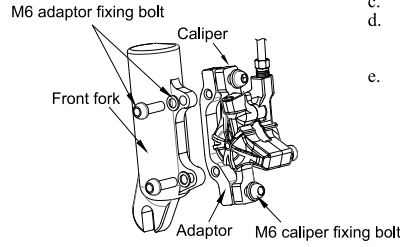

FIG.2
- 3-1 Place a qualified adaptor on the front fork or frame by M6 adaptor fixing bolts + washer at a torque of 8~10 Nm(71~89 in.lbs) to install the Bengal Hydraulic Disc Brake. (As shown in FIG.2).
- 4-1 Install the calipers on the adaptor by M6 caliper fixing bolts loosely and let calipers be able to swivel left and right for adjusting its position. (As shown in FIG.2).